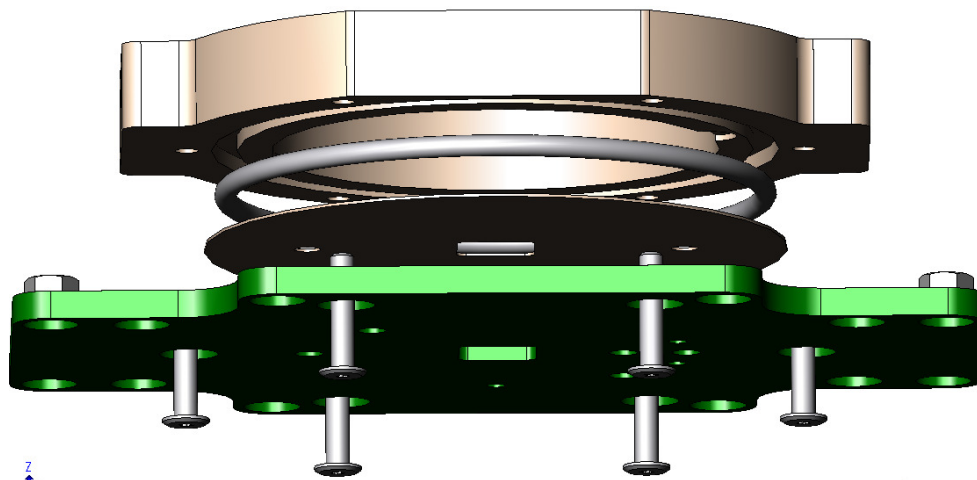

Figure 33.4.: Basic Cell Assembly
1. From top to bottom the parts shown in Figure 33.4 on page 496 are: